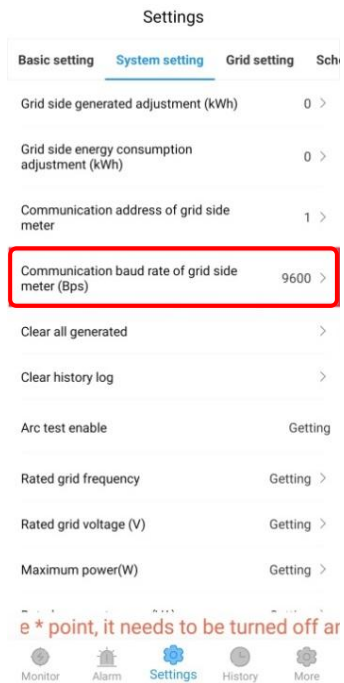

Figure4-38 Set the baud rate
Step 2 Set the baud rate of meter in "System setting - Communication baud rate of grid side meter (Bps)". The default baud rate is 9600, as shown in Figure4-38.